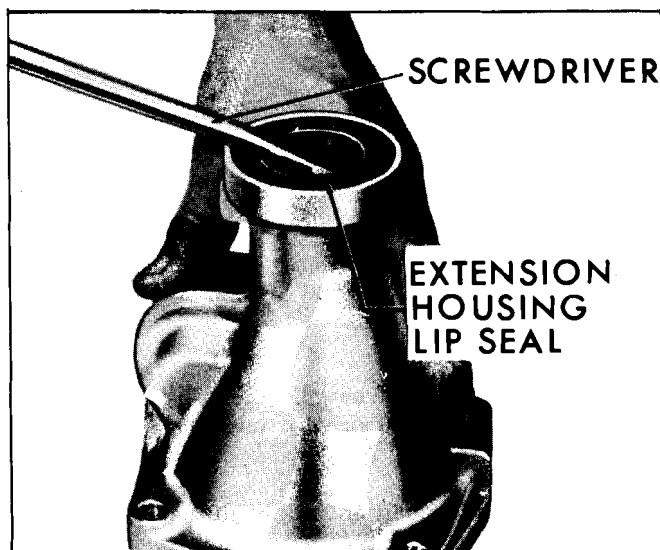

Fig. 7G-46 Removing Lip Oil Seal
4. Depress speedometer drive gear retaining clip and slide speedometer drive gear off output shaft (Fig. 7G-47).